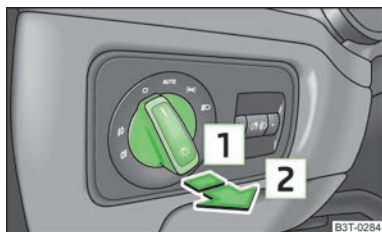

Fig. 32
- First of all, turn the light switch to position or » Fig. 32.
- First of all, turn the light switch to position or » Fig. 32 on page 52.